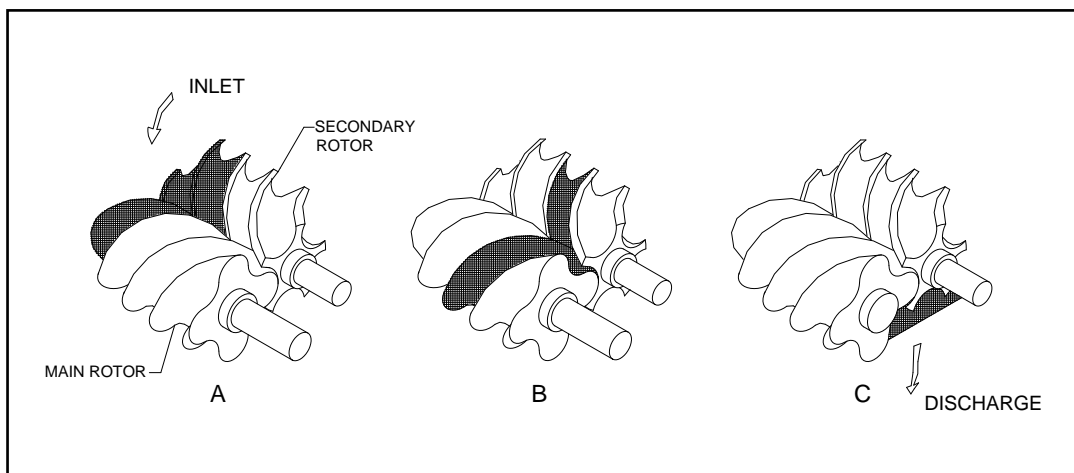

Figure 3-2
The compression cycle as depicted below, (Ref. Figure 3-2), has air entering the compressor through the inlet port that becomes trapped between the helical lobes of the main rotor and the matching grooves of the secondary rotor (A). As the rotors turn, air is trapped in the cavity created by the mashing lobe and groove and reduced in volume or “compressed”. It is then pushed through the successive cavities (B) until it reaches the discharge end of the compressor (C) and is sent to the oil separator.